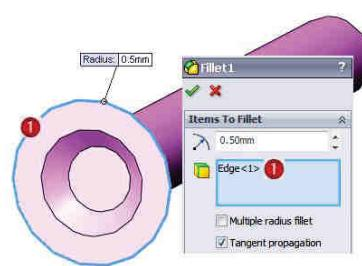

Fig. 2.42
**5 Racordare 1 muchie R0.5:** comanda Fillet – Fig. 2.42 –  rază R0.5 / selecție 1 muchie /  .
**5 How to fillet an R0.5 edge:** the Fillet command - Fig. 2.42 –  R0.5 radius/ select 1 edge /  .